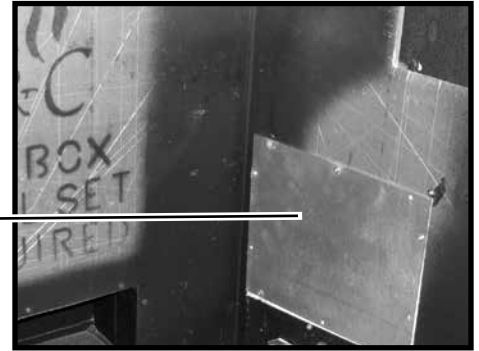

Figure 23: Access panel location.
3. Remove access panel from right hand side of the firebox (Figure 23).